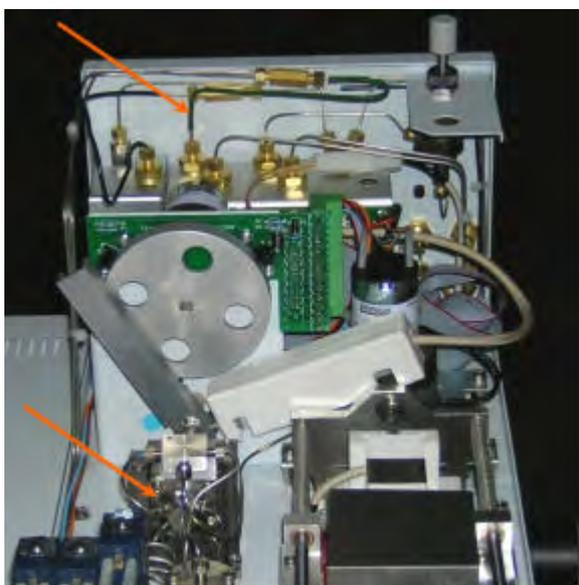
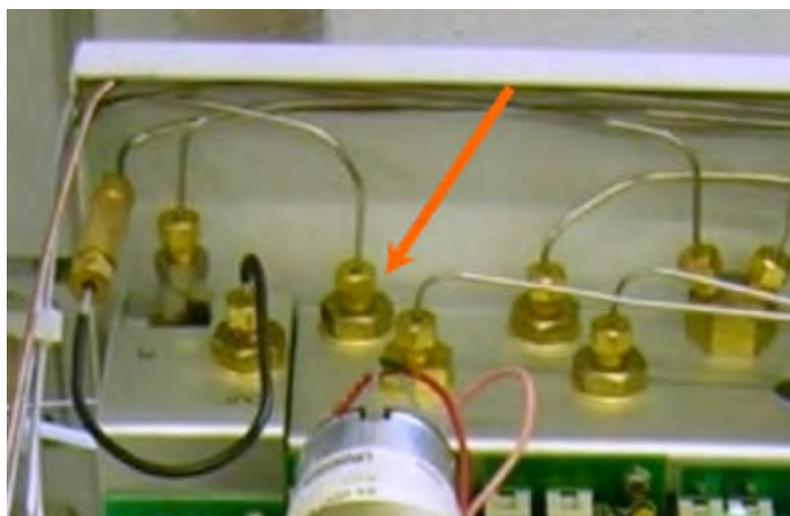

Figure 9-3 - Master TD original version
Figure 9-4 - Flowmeter
- Remove the green restriction (Figure 9-3) and connect the tubing directly to the flowmeter (Figure 9-4)